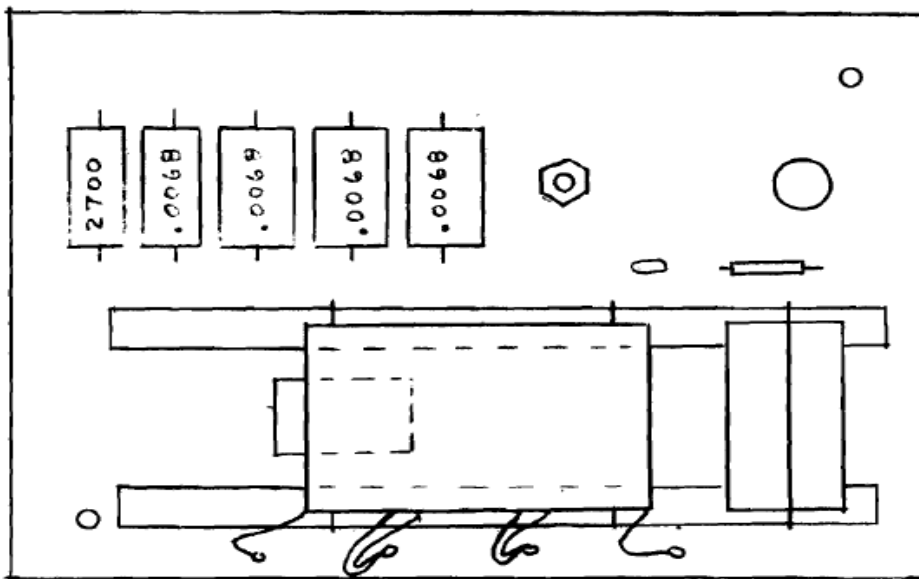

Fig. 2 Component side.
- () Place one of the plastic rods next to the wire on the component side of the board. The end of the rod should be $\frac{1}{4}$ " from the right side of the board (Fig. 2).
- () Place the leads of the five large tubular capacitors in their holes as shown in Fig. 2. Solder the leads and cut off the extra wire.
() Remove the wrapped insulation from the end of each loading coil lead for about $\frac{1}{4}$ ". Wrap the exposed wire ends around the pins and solder to the pins. See Fig. 2. Note that the center pins each get two wires.